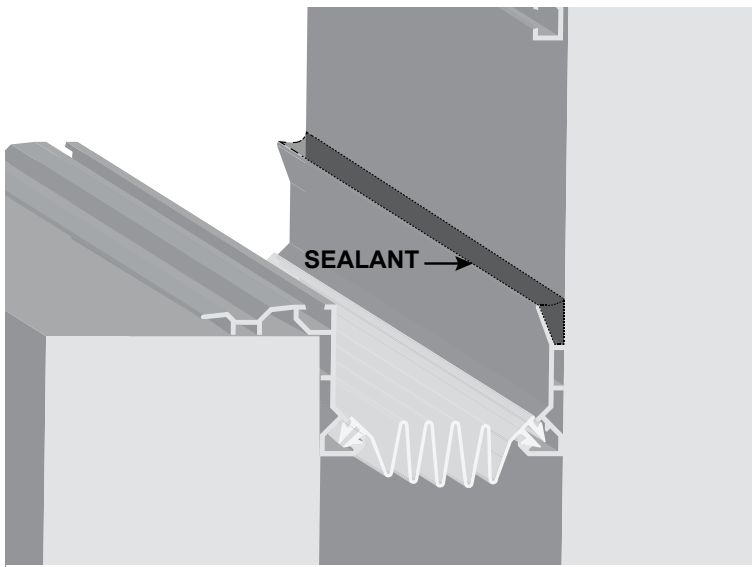

Figure 8—RW Lower Base Member Sealant Placement
3. Apply a continuous bead of sealant into the top gap of the lower wall base member (Figure 8).